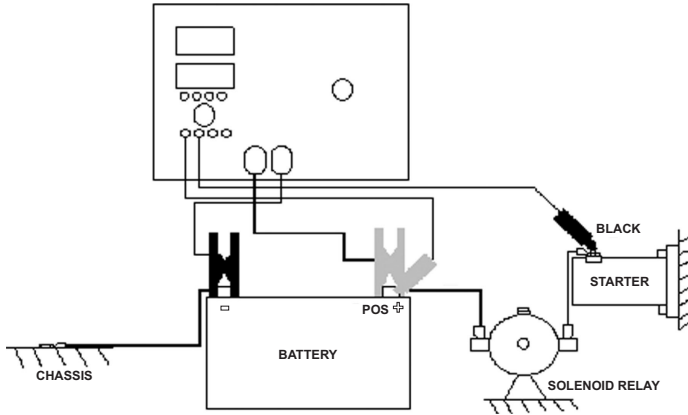

Figure 3
2. Connect Volt test leads as shows in the following (Figure 3). Clip from battery POS (+) post to the input terminal on the starter motor.